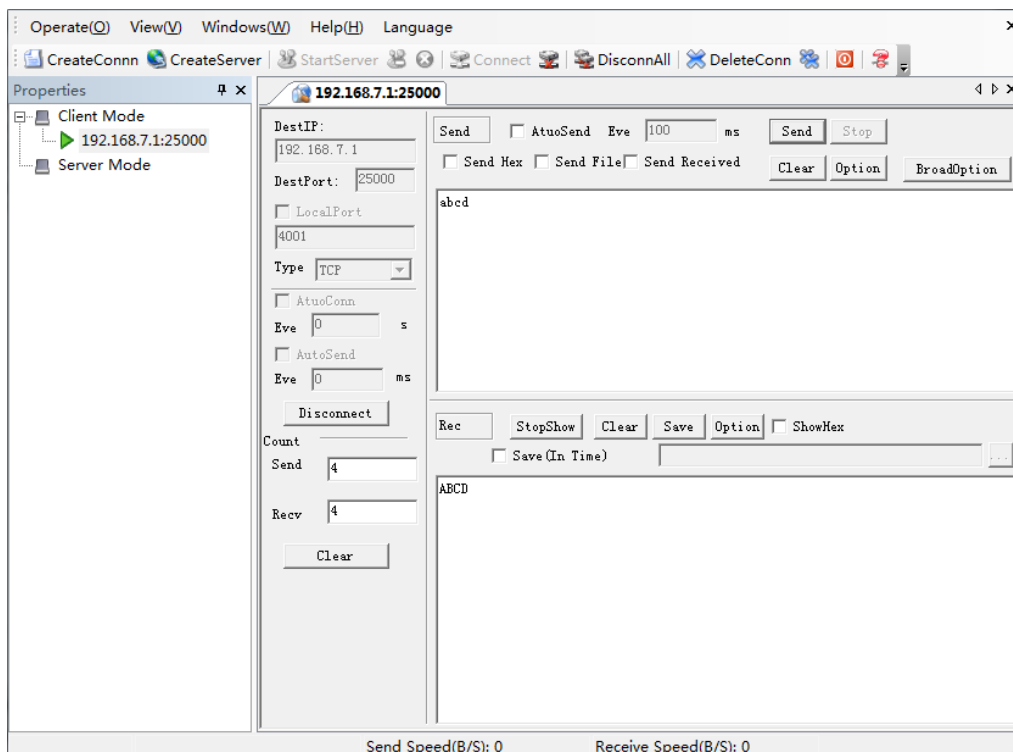

Figure 1-2 TCP/UDP Test Tool Data Sending and Receiving
3. The TCP Client sends a string to the TCP Server, namely, send data from the test tool to the module (Figure 1-2).